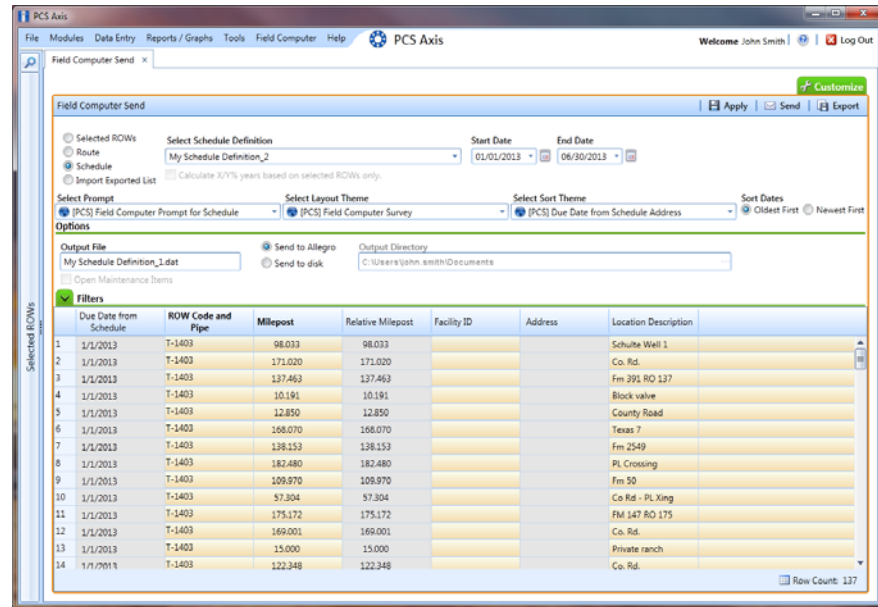

Figure 12-25. Field Computer Send Based on Schedule
- c To set a schedule date range using dynamic start and end dates, follow these steps (Figure 12-25, page 501):